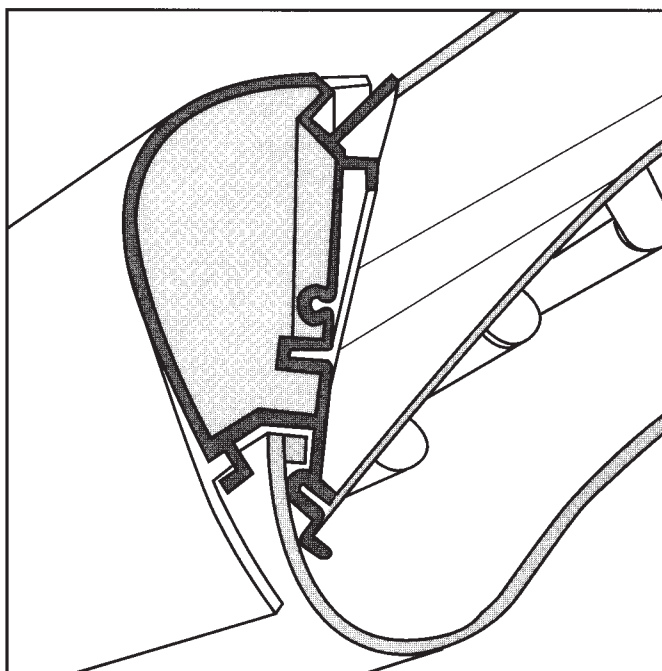

fig. 5
When assembling the acrylic sheet (25), make sure that the edges are properly inserted behind the aluminium profile (fig. 5).